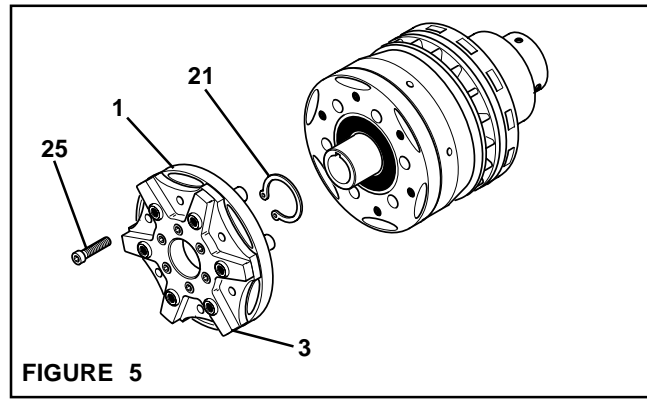

FIGURE 5
1. Remove the six Socket Head Cap Screws (Item 25) (See Figure 5).
2. Remove the Endcap (Item 3) and Cylinder (Item 1) (See Figure 5).
3. Remove the Retaining Ring (Item 21) (See Figure 5).
15. Reinstall the Retaining Ring (Item 21) (See Figure 5).
16. Slide the Endcap (Item 3) and Cylinder (Item 1) onto the Hub (Item 5) (See Figure 5).
17. Apply a drop of Loctite® 242 to the threads of the six Socket Head Cap Screws (Item 25) and secure the Endcap (Item 3) and Cylinder (Item 1) to the Piston Guide (Item 11) (See Figure 5).
18. Alternately and evenly tighten the six Socket Head Cap Screws (Item 25) to the recommended torque (See Figure 5 and Table 2).